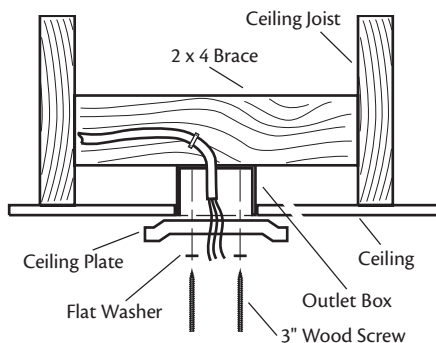

Figure 10 - Installing the ceiling plate
- Place a flat washer on each of the two 3" screws and pass the screws through the slotted holes in the ceiling plate as shown in Figure 10.